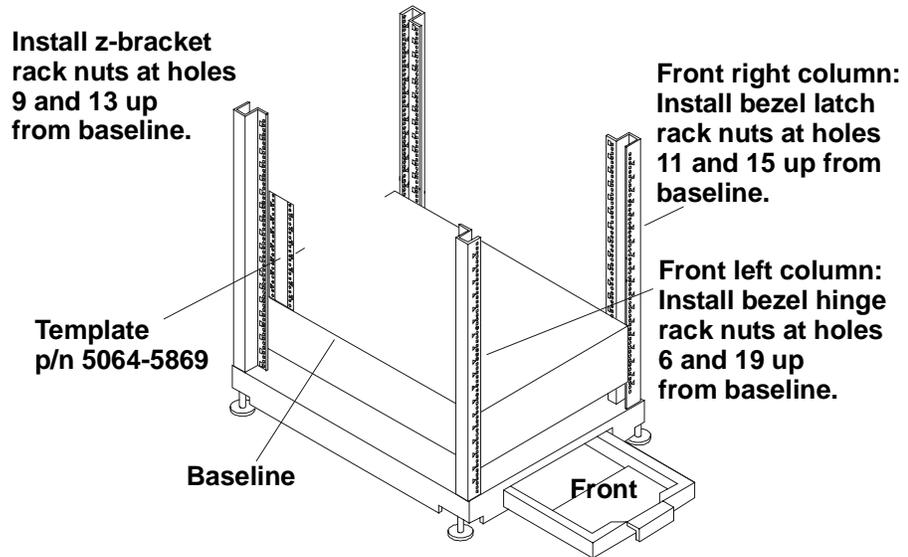

Figure 13-3. Installing Rack Nuts
Rack nuts are installed on the front columns to secure the bezel latch and hinge. Use the rack template to locate the mounting holes (see Figure 13-3).
2. Install the bezel hinge rack nuts on the left front column (holes 6 and 19 counted up from the baseline). Rack nuts are installed on the rear columns to secure the Z-bracket, which is secured to the HP NetServer. Use the rack template to locate the mounting holes (see Figure 13-3).